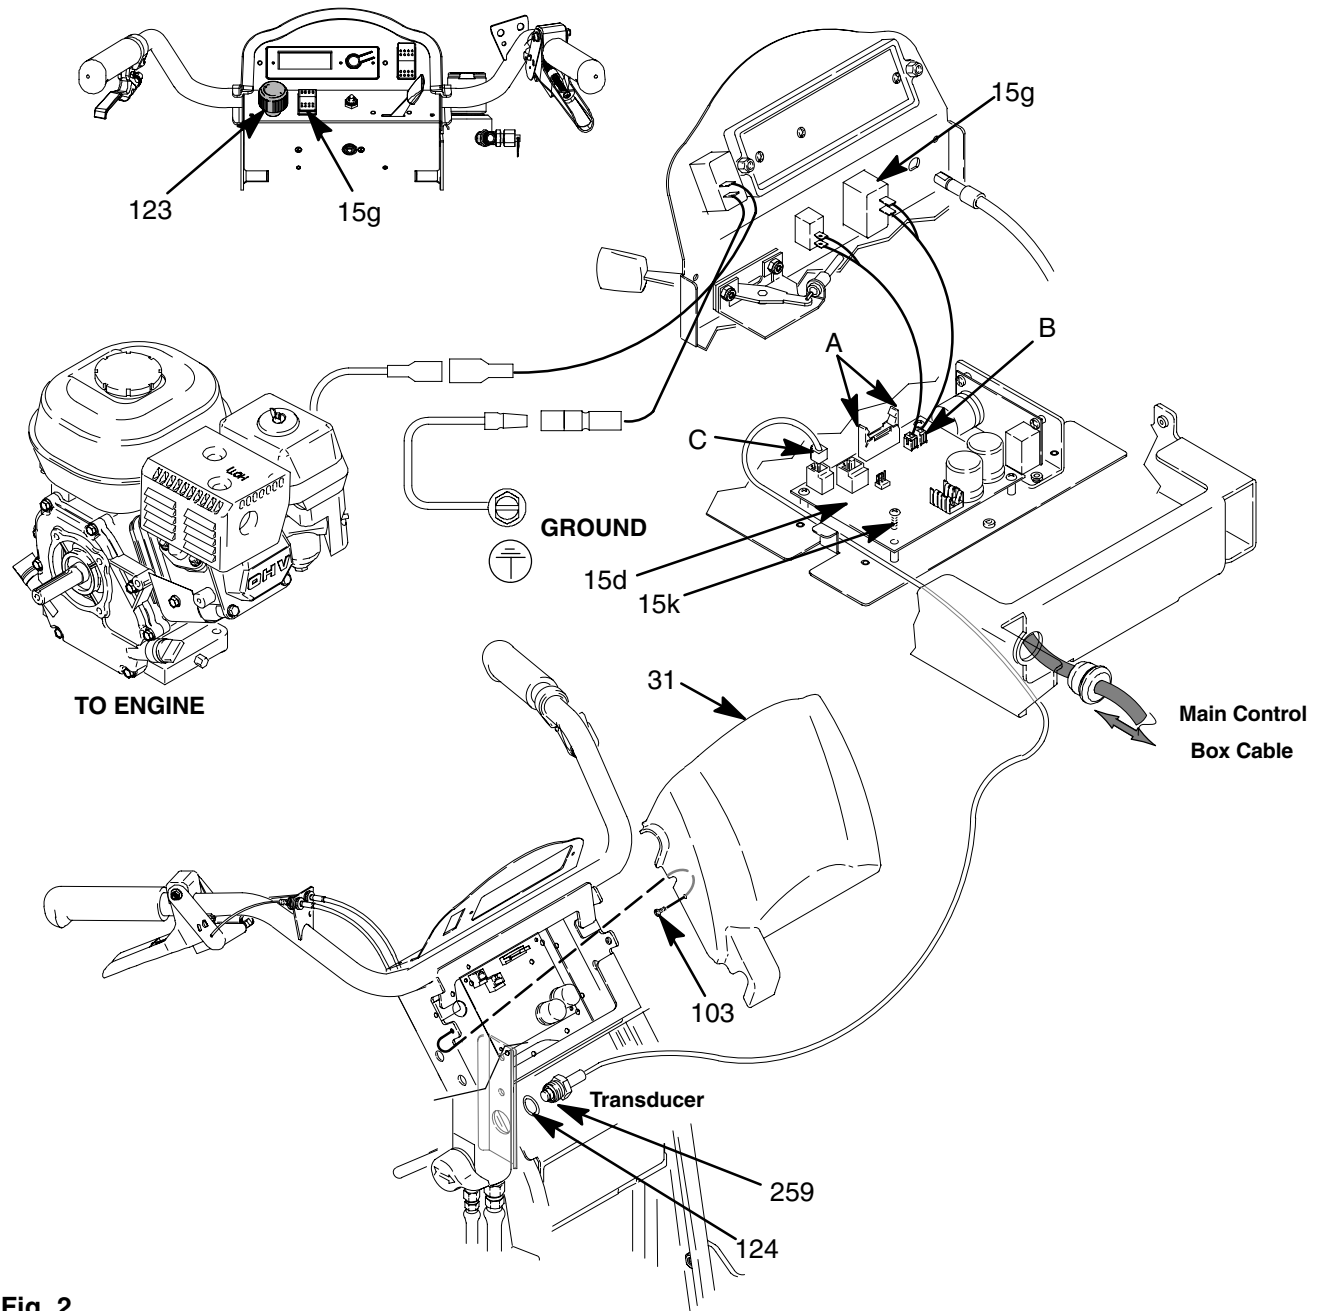

Fig. 2
2. Fig. 2. Remove two screws (103) and cover (31).
3. Pull display connector wings (A) open on PC board and pull display connector out.
4. Disconnect ON/OFF switch connector (B) from PC board.
1. Fig. 2. Install new ON/OFF switch (15g) so tabs of switch snap into place on inside of pressure control housing.
2. Connect ON/OFF switch connector (B) to PC board.
3. Push display connector into PC board and close display connector wings (A) on PC board.
4. Install cover (31) with two screws (103).
1. Fig. 2. Install control board (15d) and four screws (15k). Torque to 105–115 in-lb.
3. Push display connector into PC board close display connector wings (A) on PC board.
3. Disconnect transducer lead (C) from control board (15d).
4. Remove pressure control transducer (259) and o-ring (124) from filter housing.
1. Fig. 2. Install o-ring (124) and pressure control transducer (259) in filter housing. Torque to 35–45 ft-lb.
2. Connect transducer lead (C) to motor control board (15d).
3. Install cover (31) with two screws (103).